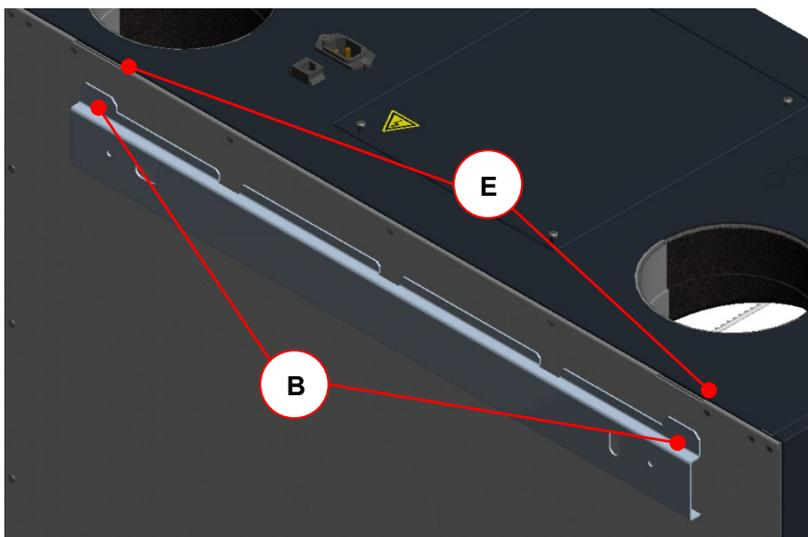

Fig. 12: Hooking the unit into the fastening sheet
6. Place the FOCUS unit on the floor stand so that the lugs of the fastening sheet hook into the slots in the lock seam at the bottom of the unit's rear cover. See Fig. 12.